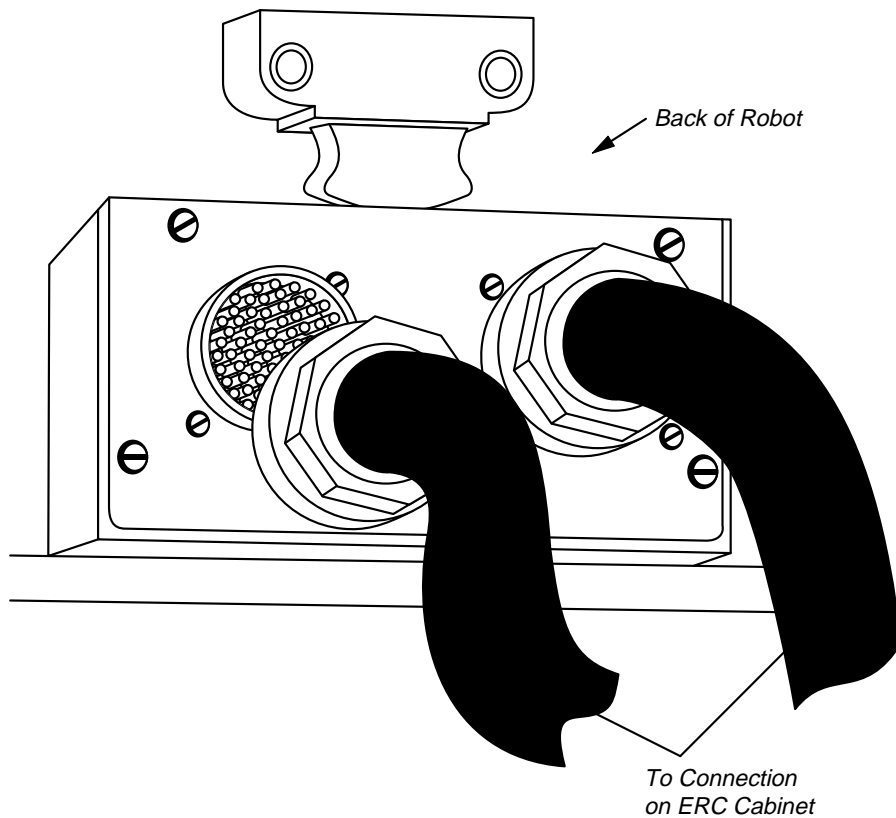

Figure 4-6 Connecting the ERC to the Robot
1. Connect the two large black cables on the ERC to the back of the robot (see Figure 4-6). The smaller of the two cables should be on the left and the larger on the right.